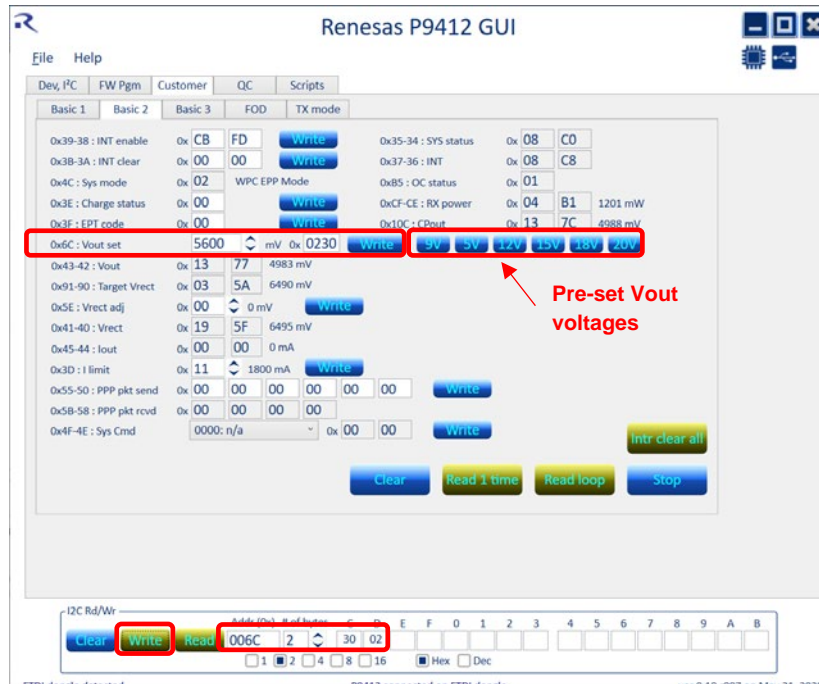

Figure 14. VOUT Adjustments Can be made in Three Ways
- Reciprocally, register 0x6C (valid for FW37 and above) is used to set the value of VOUT, as shown in Figure 14. Any register can be read (or written assuming it is a writeable register) from the I2C reg Rd/Wr tool at any time. Address is the starting address and the number of bytes should be specified prior to clicking “Read” for read, or “Write” for write operations.